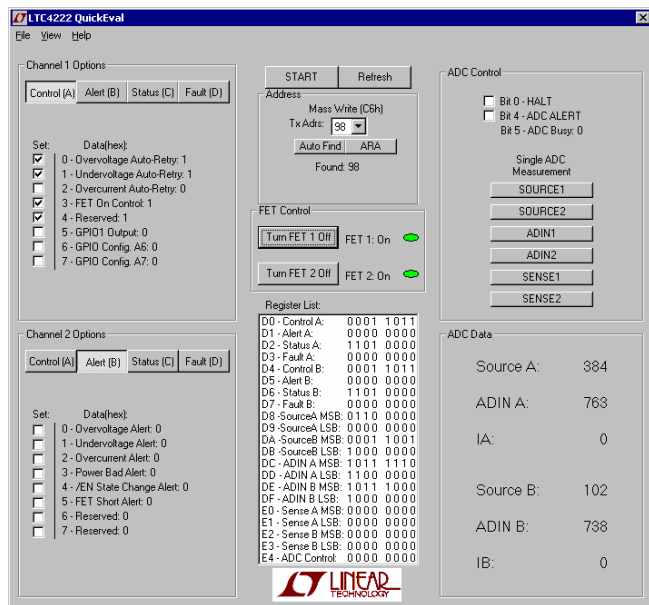

Figure 2.
The content of all Controller registers is displayed in the Register List with symbols “1” and “0” and updated with each refresh of the interface. Additionally there is an option to display CONTROL(A), ALERT(B), STATUS(C), and FAULT(D) registers for both channels with functional bits description. Clicking appropriate register button calls the necessary information. Figures 2 and 3 demonstrate register display options. Checking a box to the left of each bit of the registers CONTROL, ALERT, and FAULT sets the respective bit, while unchecking a box clears the bit. The STATUS register bits are shown after every refresh of the interface. The Clear button for register D clears out the bits in this register.